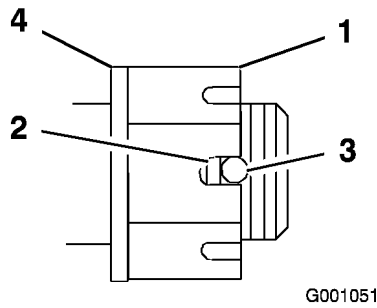

Figure 42
4. Torque the slotted nut to 125 ft-lb (170 N·m) (Figure 42).
5. Check the distance from bottom of slot in nut to inside edge of hole. Two threads or less should be showing (Figure 42).
7. Torque the slotted nut to 125 ft-lb. (170 N·m) (Figure 42).
8. Tighten the nut until the next set of slots line up with the hole in the shaft (Figure 42).